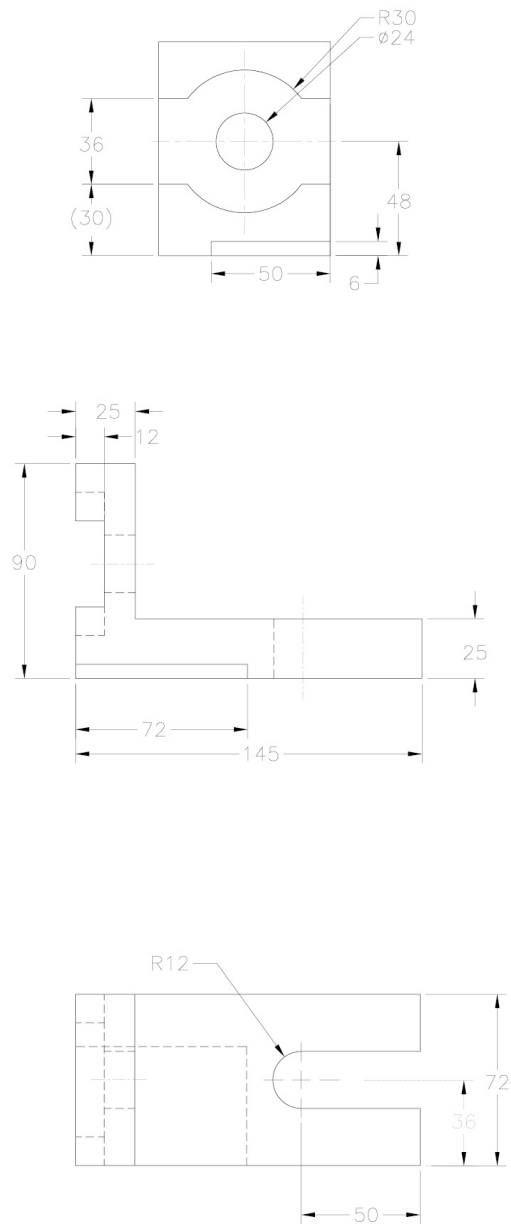

Figure 5-88 Views and dimensions for Tutorial 2
In this tutorial, you will create the model shown in Figure 5-88. Its views and dimensions are shown in the same figure. **(Expected time: 30 min)**
2. Draw a circle on this face and then add dimensions to it; refer to Figure 5-88 for dimensions.
2. Delete all the reference geometries, if any, and then create the sketch for the cut feature, refer to Figure 5-88 for dimensions. Add required constraints and dimensions to the sketch.